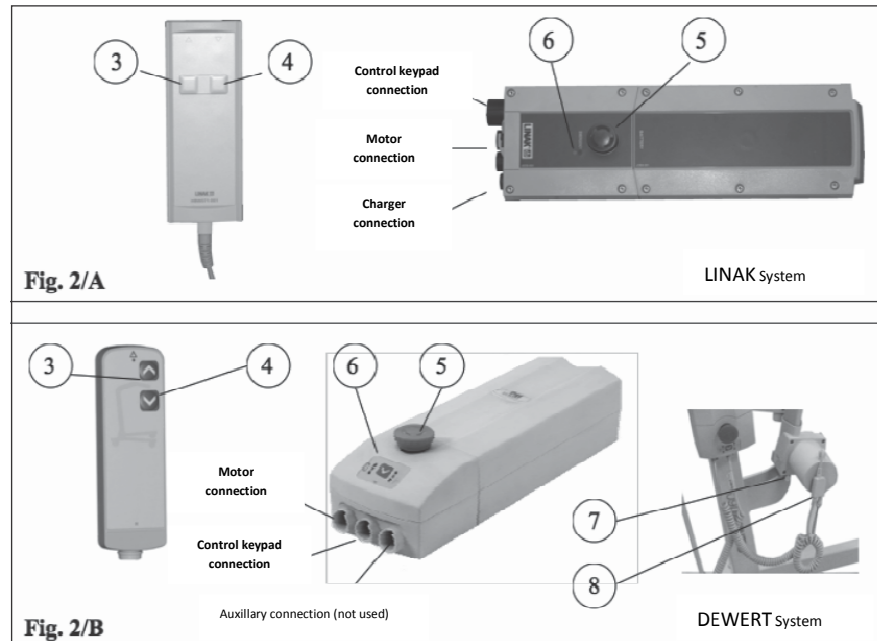

Fig. 2 Lifting and lowering of the GEMINI electric version
IMPORTANT In the DEWERT motorisation version, there is an inhibition device (8) placed directly on the cable of the engine (Figure 2/B). This device consists of a metal key inserted in a small box. In the condition in which the key is inserted the machine works properly, in a condition in which the key is not inserted the machine remains inactive. In this case there will be the lighting of the leds and the internal activation of the controller to press the control buttons, but the engine will remain inactive. This device allows the inhibition of the lifter in the event of absence of authorised personnel in the event that it is necessary to have them.